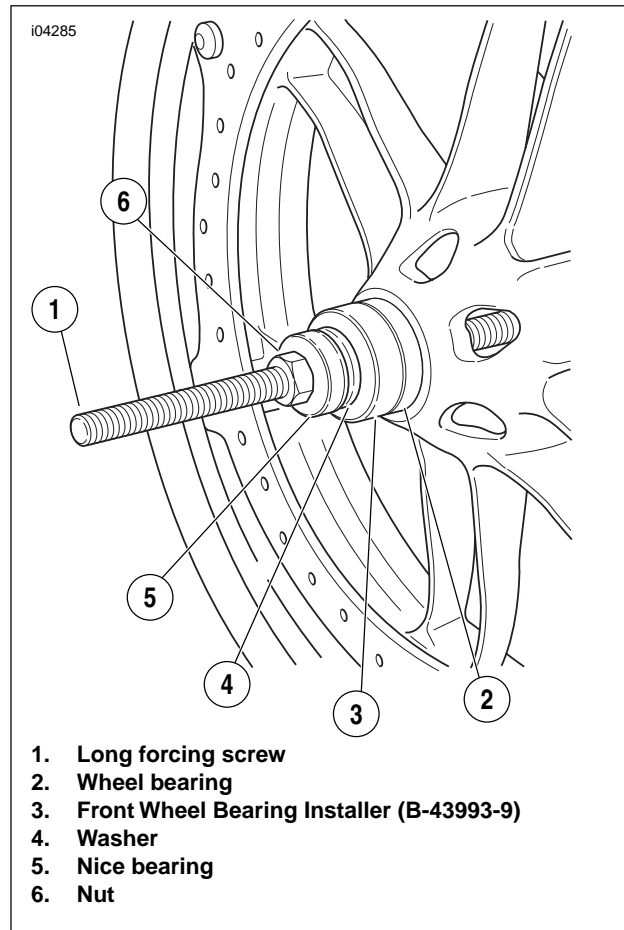

Figure 2-14. Install Bearing
2. See Figure 2-14. Sparingly apply Extreme Pressure Lubricant (J-23444-A) to the threads of the long forcing screw (1) to prolong service life and ensure smooth operation.
3. Insert a **new** wheel bearing (2) squarely into the hub, with the lettered side pointing out (away from the wheel).
4. Slide the Front Wheel Bearing Installer Tool (B-43993-10) (3) onto the forcing screw (1), with the smaller diameter toward the bearing bore.
5. Install a washer (4), Nice bearing (5) and nut (6) onto the forcing screw (1).
6. While holding the forcing screw (1), tighten the nut (6) until the bearing is flush with the hub.